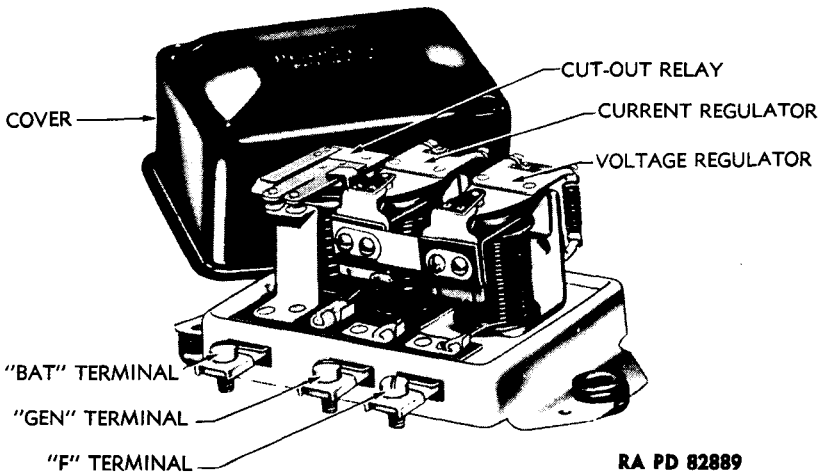

Figure 67 — Generator Regulator Assembly
(2) **REGULATOR ASSEMBLY.** The regulator assembly (fig. 67) is a three-unit, electromagnetic assembly for controlling generator output to meet all conditions of operation. The three separate units in the regulator assembly are the cut-out relay, voltage regulator, and current regulator. The complete assembly is enclosed by a dust- and